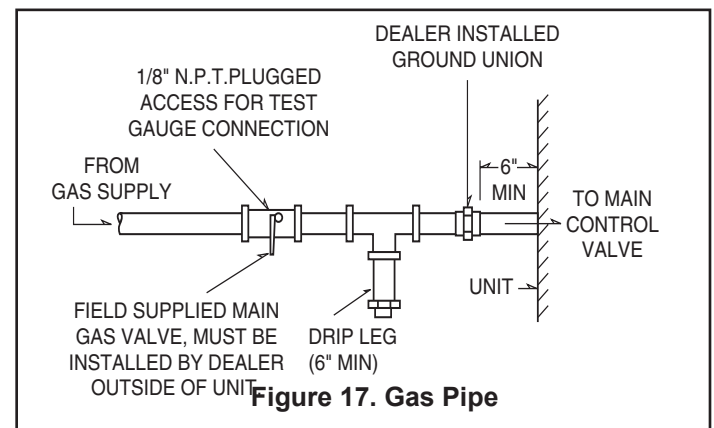

Figure 17. Gas Pipe
Follow these steps to complete the installation of the unit gas piping. See Figure 17.
3. Install a drip leg at least six (6) inches in depth next to the union as shown in Figure 17. This drip leg is required to collect any sediment that may be deposited in the line.